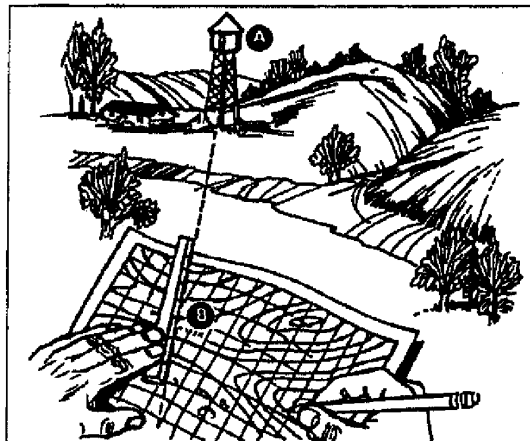

Figure C-38. Resection without a compass
2. Perform resection without a compass (figure C-38).
a. Orient your map as closely as you can using one of the ways you've learned about finding direction: compass, sun, watch, or stars. Then look for some feature, such a water tower (figure C-38, point A), that you can also find on the map. Put a ruler or straightedge on the map, and place its edge next to the water tower symbol (figure C-38, point B) on the map. Then align the straightedge so that it points directly at the real water tower. Draw a line along the straightedge or ruler (the line will cross the symbol for the water tower on your map).